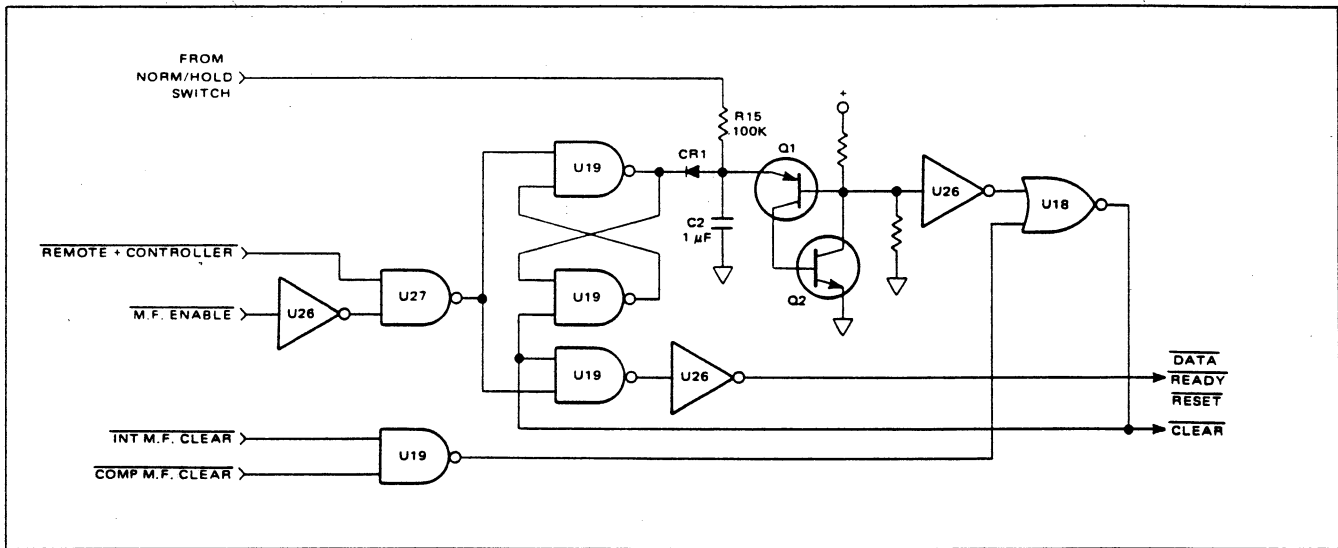

Figure 4.34 - Clear Circuitry
4.4.9.16 *Clear*. This circuit (figure 4.34) consists of an R/S flip-flop, a delay generator, and sundry inverters and gates. The circuitry generates a  $\overline{\text{DATA READY RESET}}$  pulse and, after a delay of 50 milliseconds, generates a  $\overline{\text{CLEAR}}$ . The  $\overline{\text{REMOTE}}$  line, when false, inhibits the  $\overline{\text{M.F. ENABLE}}$  line from enabling the circuitry. A  $\overline{\text{INT M.F. CLEAR}}$  or  $\overline{\text{COMP M.F. CLEAR}}$  low generates a  $\overline{\text{CLEAR}}$  low with no delay. The line from the NORM/HOLD switch supplies the current to the delay circuit. When the switch is set to HOLD or REMOTE is selected (see Initialize Circuit) this line is low and the delay circuit is inhibited.